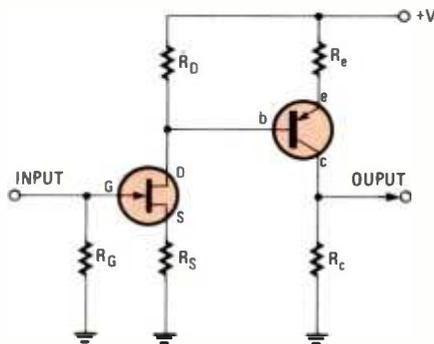

Fig. 14—This is a direct-coupled amplifier with a high input impedance FET stage and a PNP gain stage.
34. (direct coupled) A popular variation of direct coupling is shown in Fig. 14. An FET is used at the input to give the circuit a
Connecting capacitors across  $R_s$  and  $R_c$  will cause the AC gain of the circuit in Fig. 14 to